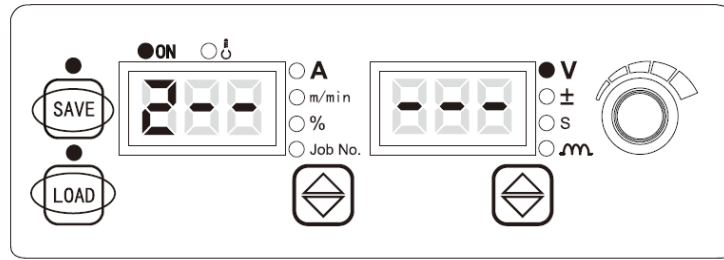

Figure 3-24 Confirming a new password
- On the screen for confirming the new password, the LED screen displays **2- - - -**. See Figure 3-24. Adjust the knob on the control panel of the welder and enter the new password character by character. Then, press the **LOAD**  button.